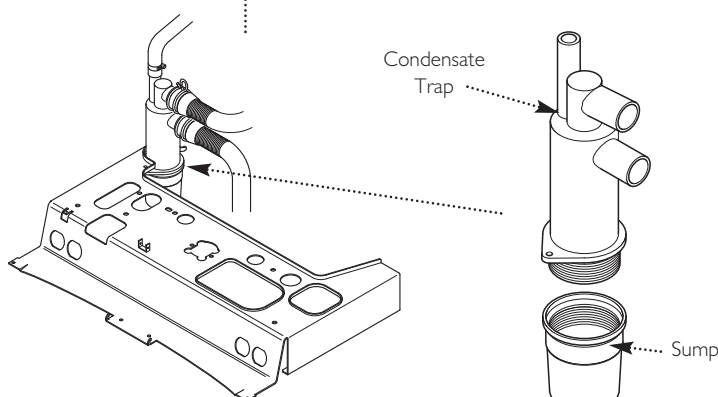

Fig. 44
5. Unscrew the sump from the bottom of the condensate trap assembly (Fig. 44) and remove any deposits from the sump and trap. Clean as necessary and replace the sump